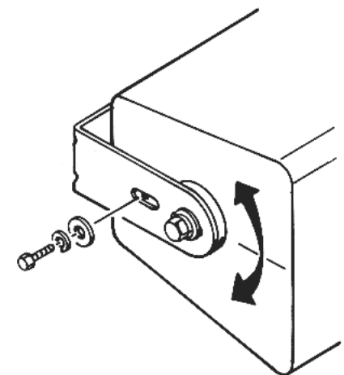

Figure 2
**Step 4.** Rotate the loudspeaker into the desired direction then tighten the side bolts permanently. To permanently set the speaker angle, insert the included lag bolts through the unused arm slots and into the loudspeaker cabinet. (See figure 2)